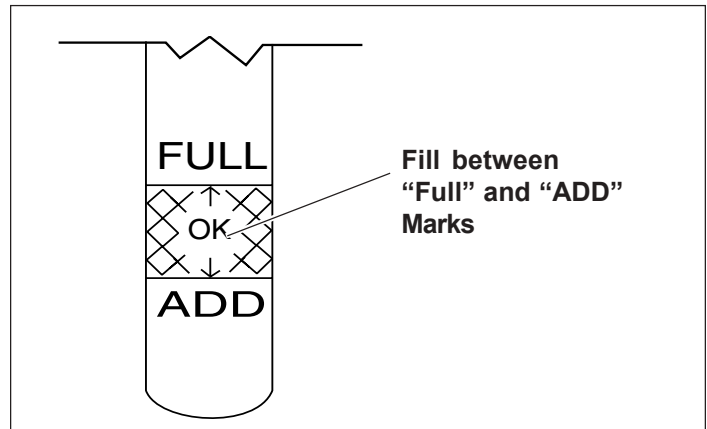

Figure 1. Engine Oil level
- Keep oil level between “FULL” and “ADD” marks on dipstick. See Figure 1.
4. Unscrew and remove oil fill cap from oil filler tube. Note oil level. If oil reading on dipstick is below “ADD” mark, slowly add oil to reach “FULL” level. See Figure 1.